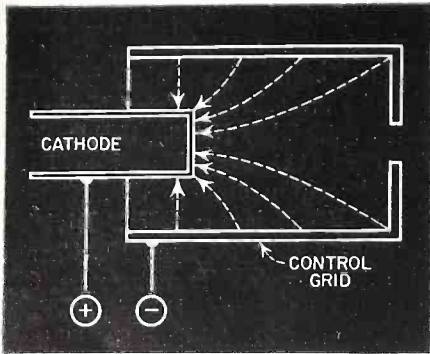

Fig. 4—Answer to 1.
1. Drawing (c) is correct. (See Fig. 4.) Note that the control grid is negative with respect to the cathode. Therefore the electrostatic lines of force will extend from grid to cathode, choosing shortest path between points, but somewhat curved at extremes because difference in area between elements.